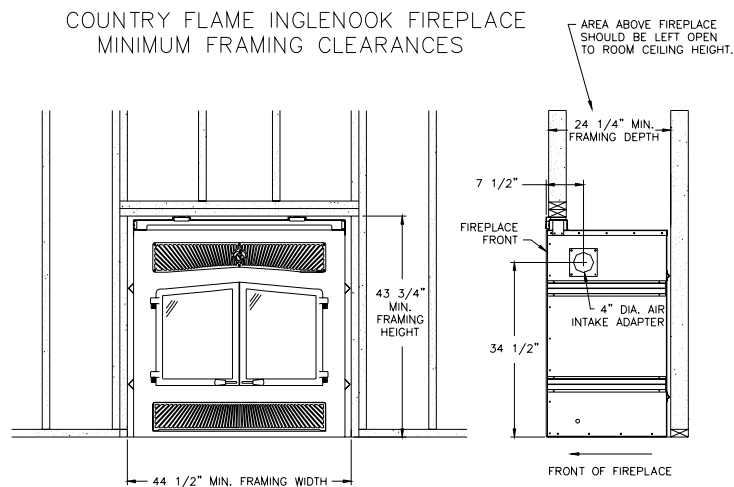
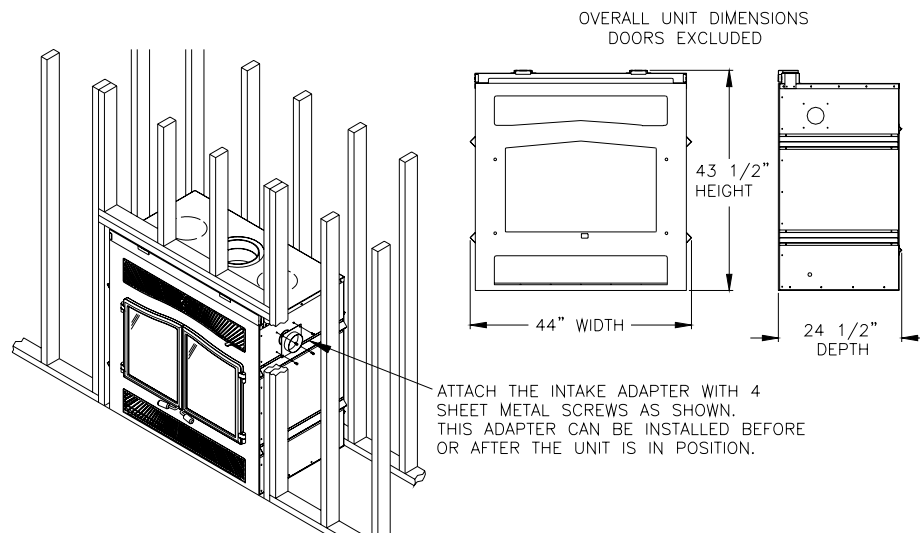

FIGURE 11: ROUGH IN
FIGURE 12: FRAMING
The construction of the framing, facing, and mantel must be in accordance with approved construction industry standards and local building codes. The following steps, along with the sample illustrations shown in Figure 11 through Figure 12 are offered as suggestions on how to handle installation.
1. Frame the fireplace using 2" x 4" or heavier lumber. See Figure 11 for an example of rough-in dimensions of the Inglenook Fireplace.
3. Frame the Inglenook Fireplace with vertical studs on each side of the fireplace. These studs should run from floor to ceiling as shown in Figure 12. If combustible facing is to be used, space the studs back from the front edge of the fireplace by the thickness of the facing material. This will ensure that when the facing material is installed, it will be flush with the front edge of the Inglenook Fireplace. **CAUTION: Do not extend combustible material on to face of fireplace. Frame headers between the vertical studs only as follows:**